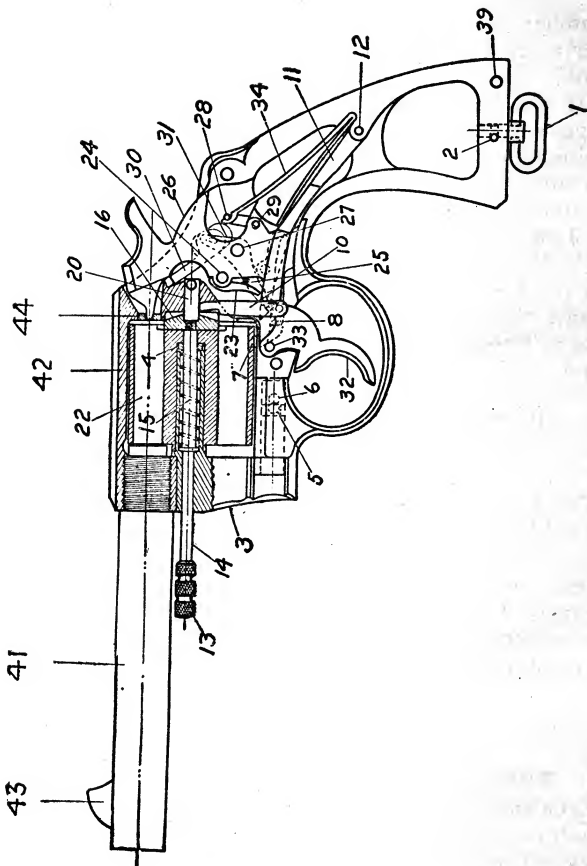

FIG. 38.—Colt's Double Action Revolver. Cal. .45.
**189. NOMENCLATURE.** Colt's double action revolver, Caliber .45, Model 1909. **Parts.** Fig. 38 shows a longitudinal section with parts of the mechanism exposed to view, with designations as follows: (1) butt swivel.